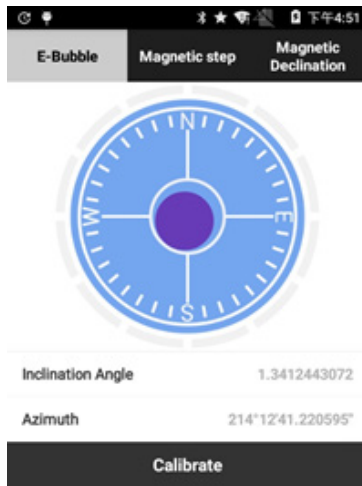

Figure 4.9-1
(1) Press [E-Bubble] to enter into E-Bubble calibration interface as shown in Figure 4.9-1.